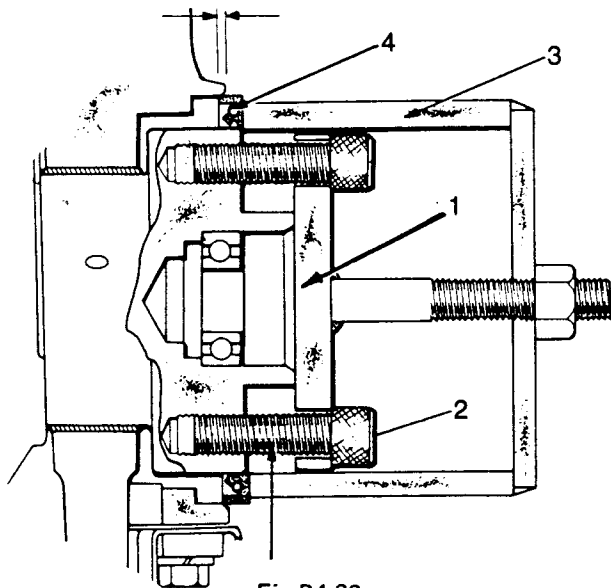

Fig B4.60
- (3) Refer to Fig B4.60. Secure the seal replacer adaptor 18GA044 (1) to the end of the crankshaft with the screws (2) as shown.